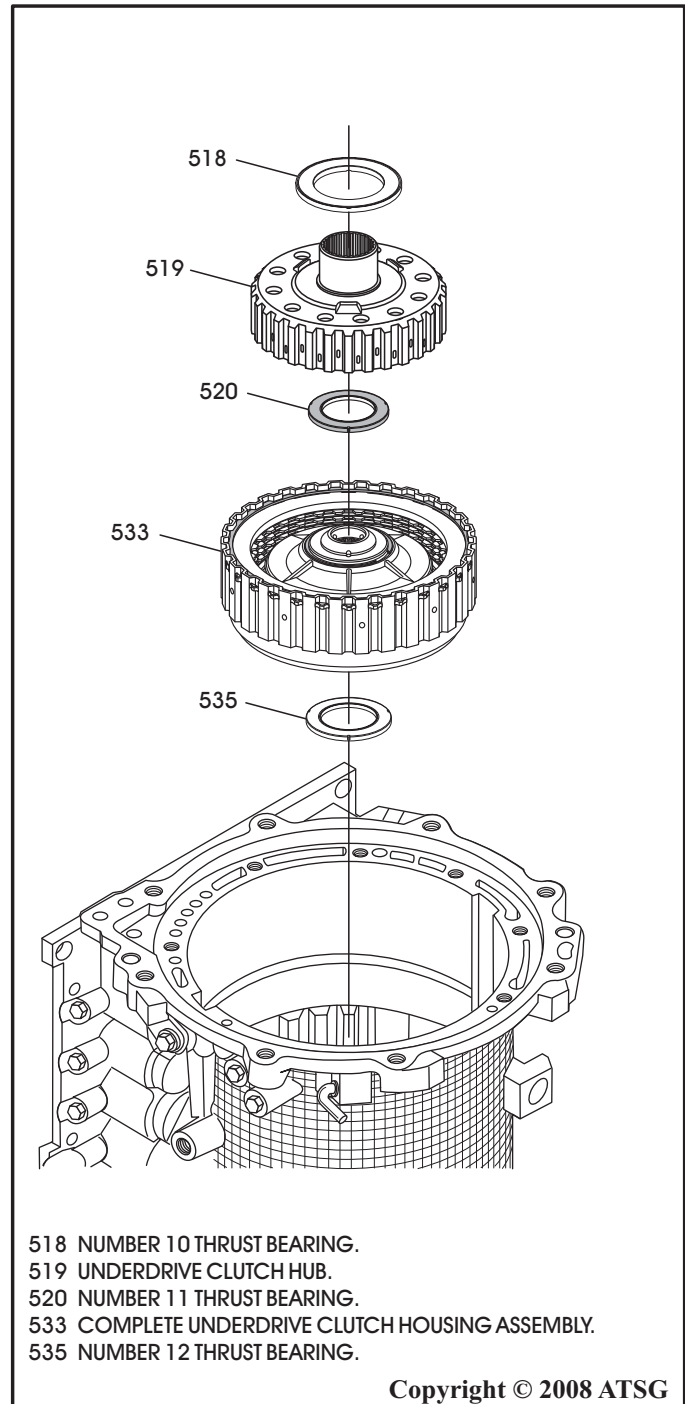

Figure 55
4. Remove number 10 thrust bearing, as shown in Figure 55.
5. Remove the underdrive clutch hub, as shown in Figure 55.
6. Remove number 11 thrust bearing, as shown in Figure 55.
7. Remove complete underdrive clutch housing, as shown in Figure 55.
8. Remove number 12 thrust bearing, as shown in Figure 55.